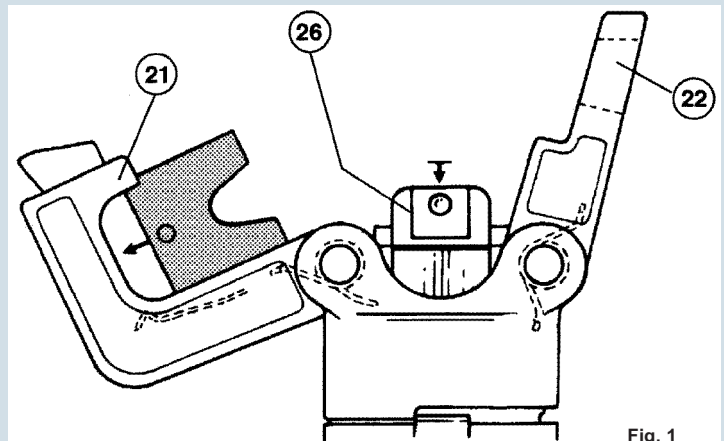

Fig. 1
With reference to Figures 1 and 2, select a pair of matrixes suitable to the type of contact and insert them in the housings: one in the matrix support (21), the other one in the matrix pusher support (26).